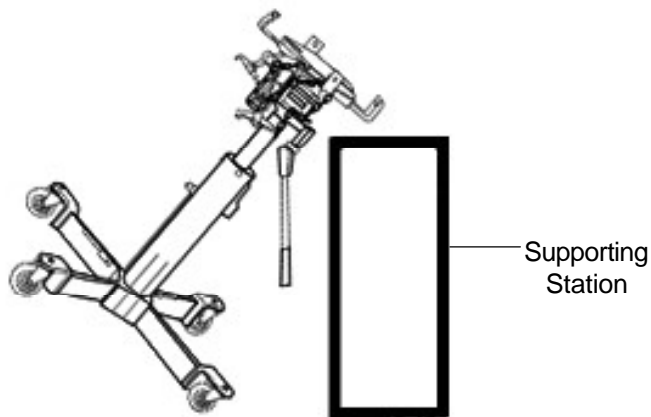

Figure 2
### Priming Instructions (refer to Figure 2)
1. Tilt the entire transmission jack over two casters so that the pump and handle are below the hydraulic cylinder as shown in Figure 2.